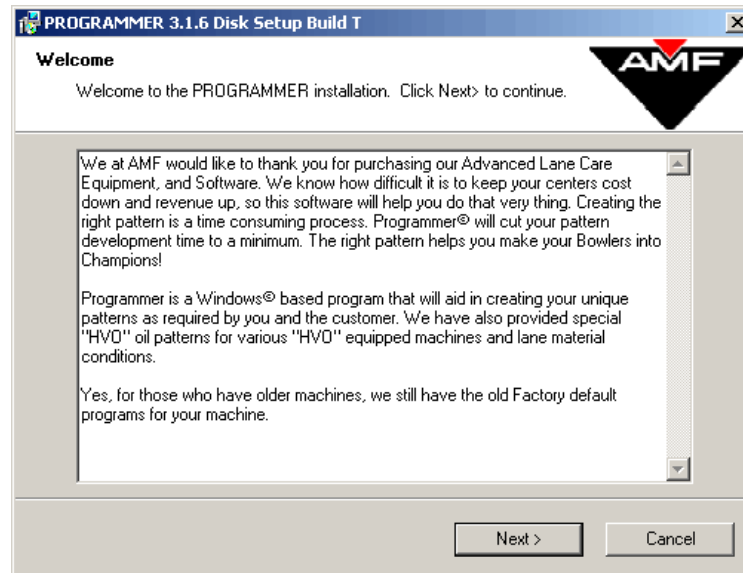

Figure 1-2
4. The welcome screen in **Figure 1-2** displays basic greeting information. Click on the <Next> button.